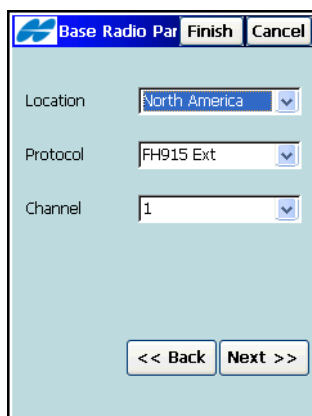

Figure 3-16. Parameters for FH915+ Modems
- For FH915Plus Modem – *Internal Hiper Lite+ FH915 Plus, Internal GR-3 FH915 Plus and RE-S1 modem*. The **Next** button on the **Base Radio** screen opens the **Base Radio Parameters** screen (see Figure 3-16 on page 3-18).
For FH 915Plus Modems: the Internal Hiper Lite+ FH915Plus, the Internal GR-3 FH915Plus and RE-S1 radios the screen contains the following parameters (Figure 3-16 on page 3-18):